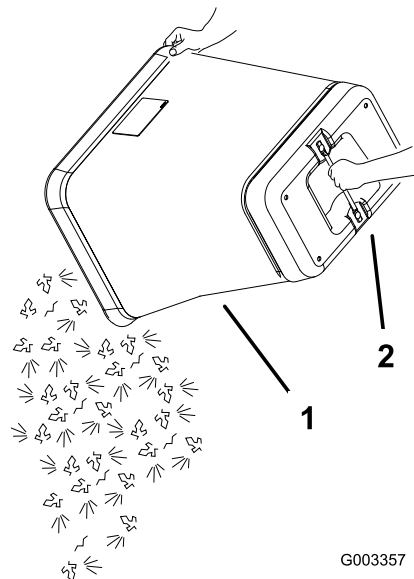

Figure 39
6. Grab the handle on the bottom of the bag and tip it over to empty the bag (Figure 39).